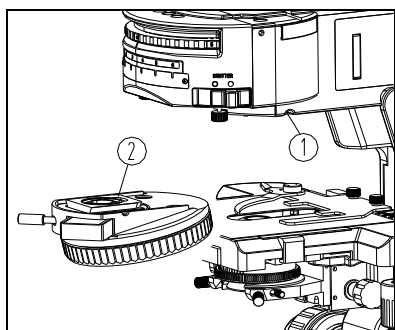

Fig.31
- (1) Loose the lock screw on the arm. (See Fig. 31)
- (2) Match the dovetail interface (2) of the nosepiece with the dovetail groove of the arm, and push to the bottom. Tighten the lock screw (1).